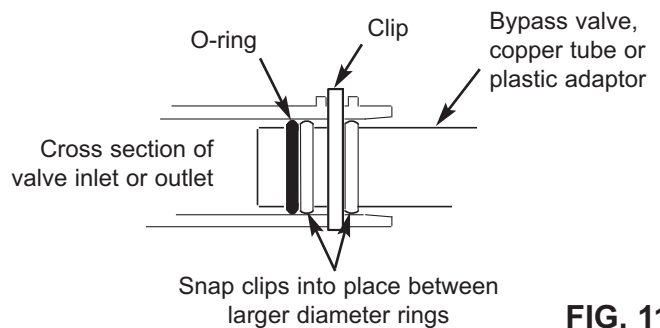

FIG. 11
- d. Snap the two large plastic clips in place on the inlet and outlet ports, from the top, down (See Figure 11). Be sure they snap into place. Pull on the bypass valve, copper tube or plastic adaptor, to make sure they are held securely in place.